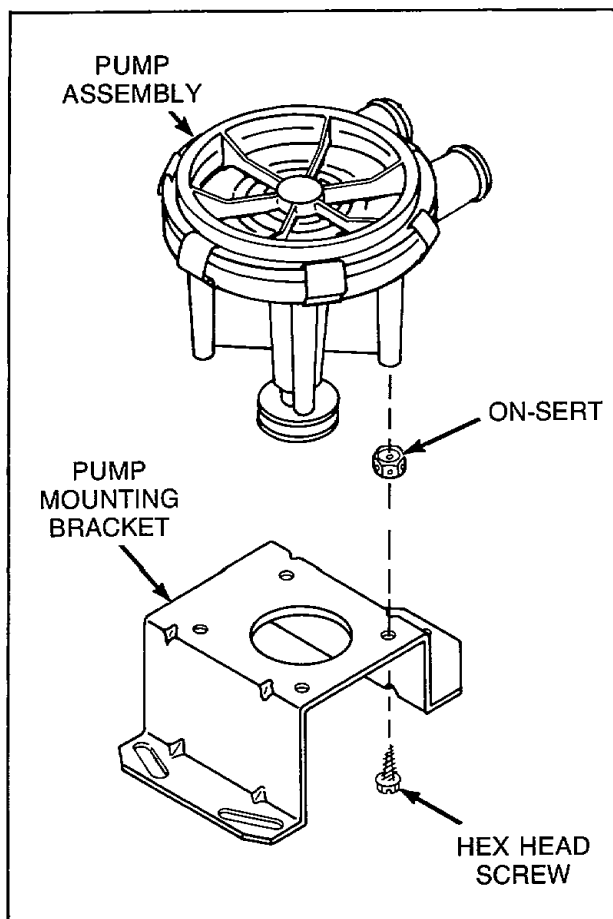

Figure 21
**NOTE:** Refer to *Figure 21* for pump and mounting bracket assembly sequence.